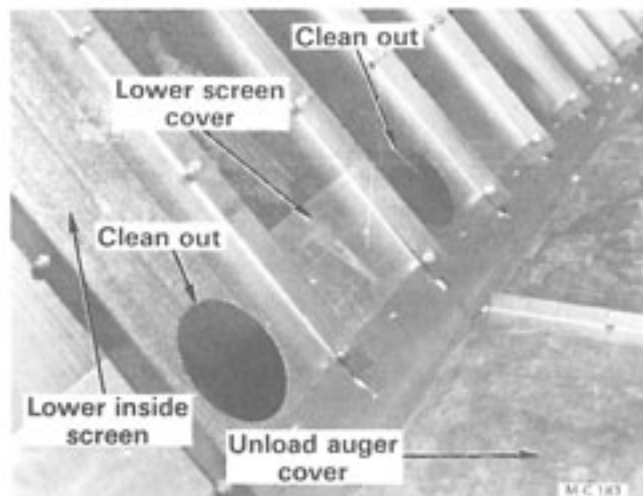

Figure 25
- C. There is a clean-out in every lower inside screen. Remove all lower screen covers, see Figure 25. After the frozen grain has been loosened reinstall the lower screen covers and close the dryer rear door.